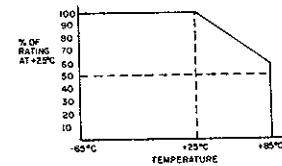

Fig. 1 — Survival power derating factors
Survival Power (from -65°C to +25°C; see power derating curve, figure 1 below, for higher temperatures): 1W average, 75W peak (1 μ sec max. pulse width)
(1) Defined as the interval between the instant the rf power level in the port switched OFF drops to 90% of its original value and the instant the rf power level in the port switched ON rises to 90% of its final value, and is rated for ports driven by shaped current pulses. For the Model DM871A, the pulses are provided by the integrated driver. For the Model M871A, the pulses must be provided by the user.
(2) Into 50 ohm system.
(3) Up to Survival Power limits shown in figure 1.